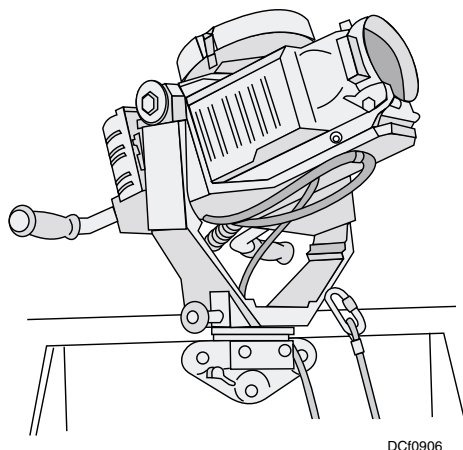

Figure 9-6. Chemical warfare directional detector (CWDD), AN/KAS-1.
The AN/KAS-1 chemical warfare directional detector (CWDD) system (fig. 9-6) is a passive, infrared imaging sensor. Its primary function is to provide U.S. Navy ships with the capability to detect and identify a chemical warfare (CW) agent attack. The AN/KAS-1 can be used to detect and identify nerve agent attacks against sister ships in a task force, against waves of amphibious assault ships and boats proceeding ashore, or against assault forces in the vicinity of the landing area. Chemical warfare agent cloud detection and identification can be accomplished against a sky background for all conditions under which CW attacks may be expected to occur. Detection of CW activity against a land background can be accomplished also, but less effectively.